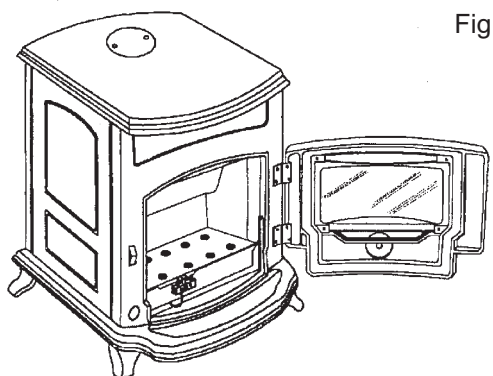

Fig.24
1. Before positioning the coals in the combustion chamber, check for dust particles and grime, vacuum if necessary. Position the coals as per instructions as incorrect placement will effect the performance of the stove. Dust off the inside of the door glass using a clean dry cloth. (see Fig.24)